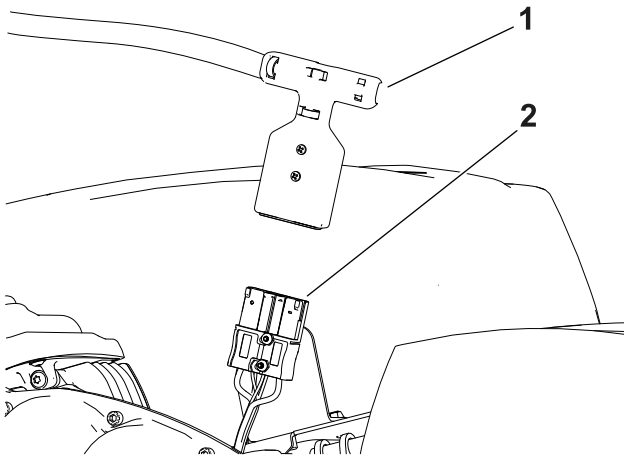

Figure 30
5. Disconnect the battery by pulling the T-handle connector off of the main-power-supply connector (Figure 30).